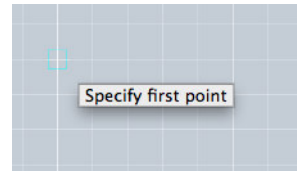

Figure 4-56 Create the first point
2. Click in the main plane to create your first point (Figure 4-56).